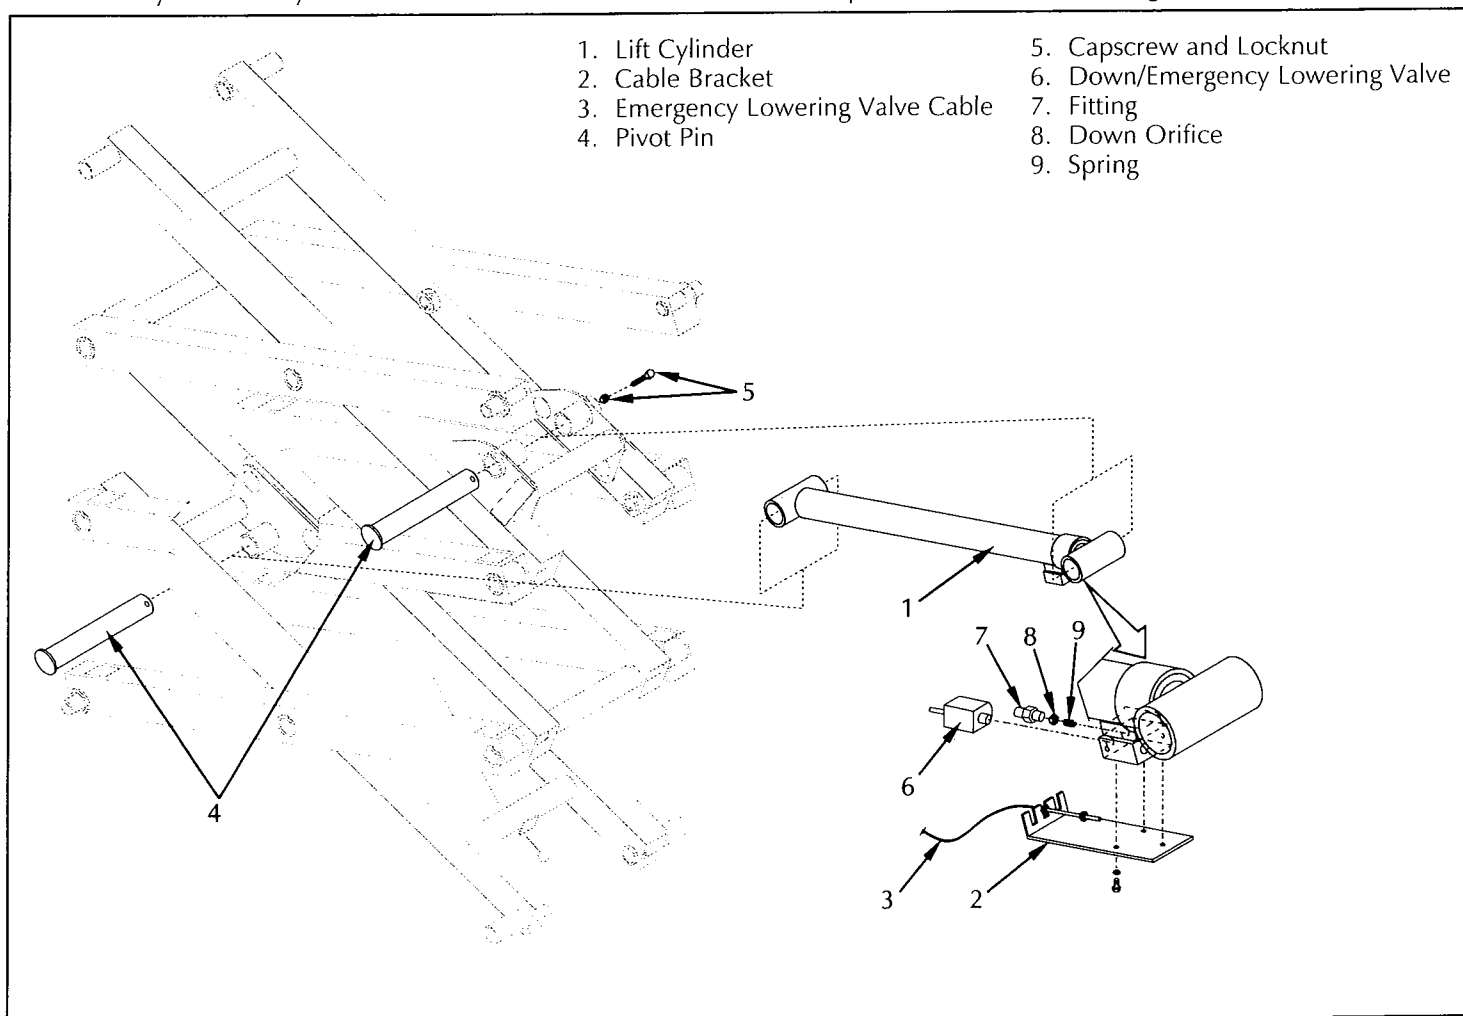

Figure 4-18: Lift Cylinder
4.12 Lift Cylinder (Figure 4-18)